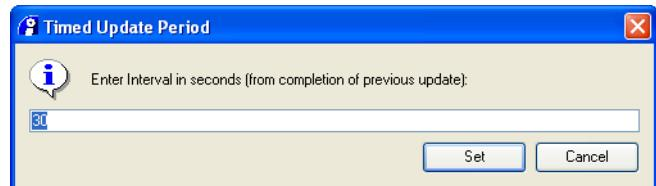

Figure 13-11 Timed Update Period dialog box
3. Select **Timed Update Period...** from the context menu to display the Timed Update Period dialog box. Figure 13-11 shows an example: